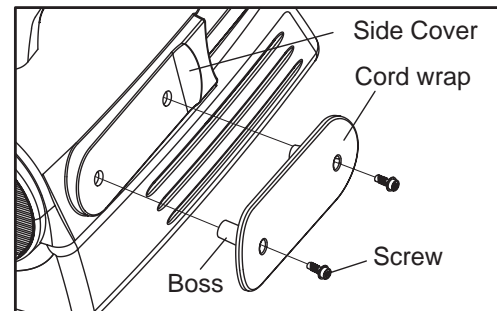

Figure 7. Cord Wrap Assembly
- 1) Align 2 boss on the cordwrap with the 2 holes on the side cover as shown in Figure 7